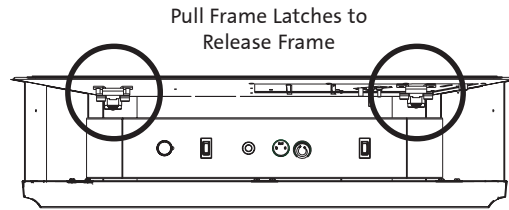

Figure 38. Glass Frame latch locations.
1. **Remove the Glass Frame, if you have not already done so.** Open the lower control panel and locate the two frame latches under the firebox floor. See fig. 38. Pull the latch handle forward to disengage it from the bottom of the glass frame. You can then pull the frame out and up off of the three retainer tabs at the top of the firebox opening. Set the Glass Frame out of the way.